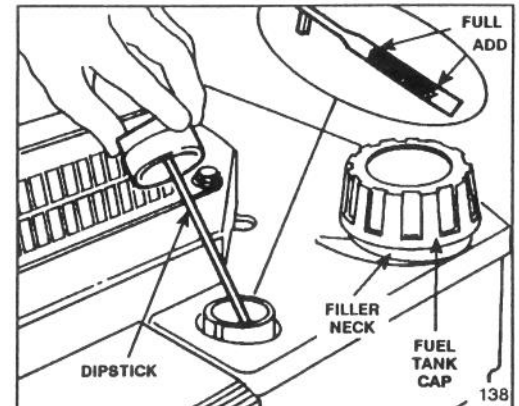

Figure 6
Before each use, ensure oil level is between ADD and FULL marks on dipstick (Fig. 6). Add oil if level is low.
3. Wipe dipstick and insert it into filler neck. Rotate cap clockwise 1/4 turn. Then remove dipstick and check level of oil (Fig. 6). If level is low, add only enough oil to raise level to FULL mark on dipstick. **DO NOT FILL ABOVE FULL MARK BECAUSE ENGINE COULD BE DAMAGED WHEN STARTED. POUR OIL SLOWLY.**
1. Clean around fuel tank cap and remove cap from tank (Fig. 6). Using unleaded gasoline, add fuel to within 1/4" to 1/2" (6 to 13 mm) from top of tank, not
1. **CHECK OIL LEVEL**—Maintain oil level between ADD and FULL marks as shown on dipstick (Fig. 6).